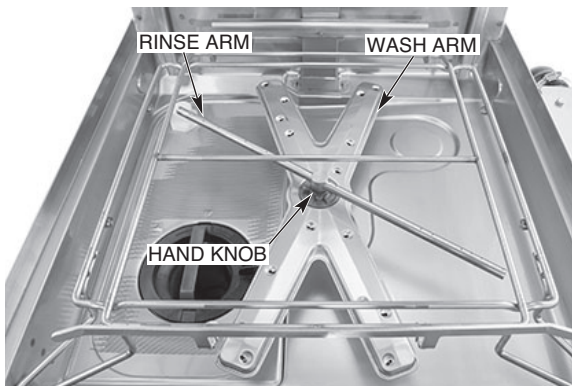

Fig. 24
7. Ensure upper and lower wash and rinse arms (Figs. 24, 25) rotate freely and are free of any obstructions. If not, remove arms and clear out any obstructions. Refer to Maintenance, page 33.